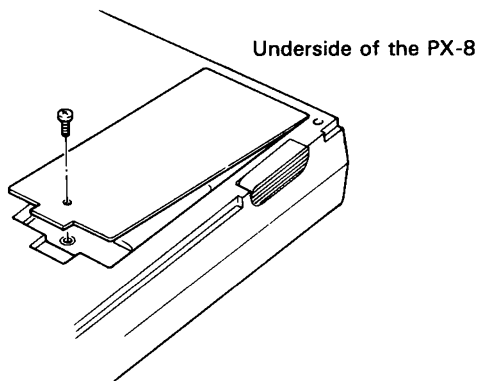

Fig. C.1
- 3) Open the battery cover (Fig. C.1) and unplug the main battery lead.
- 2) Turn the PX-8 upside down and find the battery cover position as in fig C.1